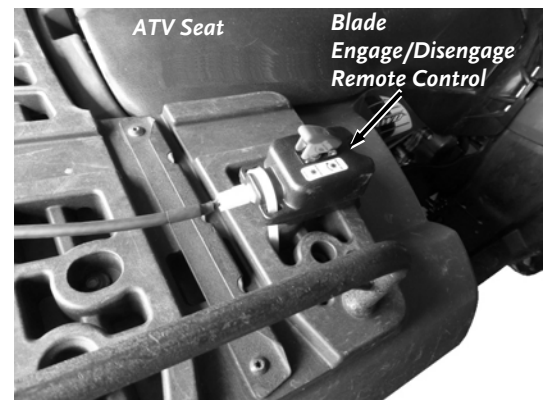

Figure 11a: ATV Mounting
1. Position the Blade Engage/Disengage Remote Control on your Tow Vehicle within reach of the seated Tow Vehicle driver (*Figure 11a and 11b*).